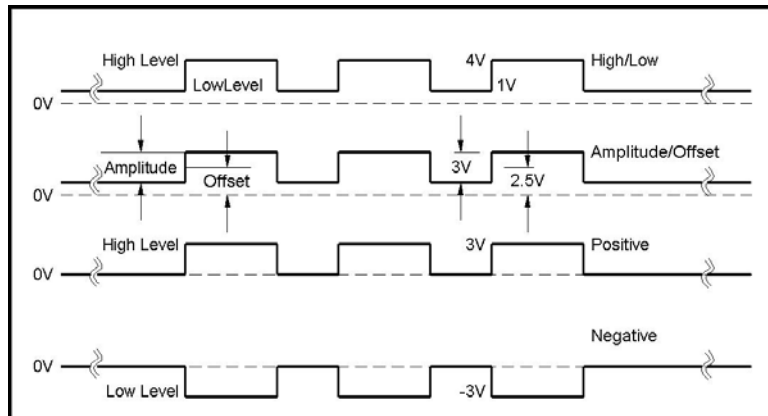

Figure 3-38, Amplitude Level Modes Options
Using the PM8572 as your pulse source, you have four options to set up the pulse levels, these are shown in Figure 3-38 and explained below:
1. **High/Low Levels.** This is the default option. Using this mode, you program the high and the low levels directly and let the instrument set the internal amplitude and offset according to your selection. The maximum amplitude that can be programmed is 16 V peak to peak. To achieve this level, program the low level to -8 V and the high level to +8 V. Note that although the specified maximum peak to peak amplitude is 16 V, the high and low level can not exceed the ± 8 V rail limits. Also note that the amplitude level is specified when the pulse is applied on a 50Ω load impedance. The only way to exceed the peak to peak rail limitation is by increasing the load impedance but then expect degradation of the pulse shape. The example in Figure 3-38 shows the high level set at 4 V and the low level set at 1 V and hence the resulting peak-to-peak level is 3 V.
2. **Amplitude/Offset.** This option allows separate modification of the amplitude and the offset. This option is very useful when you want to vary the vertical position of the pulse but hold the peak to peak amplitude level fixed. Obviously, when the amplitude is set to 16 Vp-p, offsetting the signal is not possible because of the ± 8 V rail limits. The example in Figure 3-38 shows the amplitude set at 3 V and the low level set at 2.5 V and hence the resulting waveform is exactly as was programmed in the high/low level programming example.
3. **Positive.** This option is very useful when you want to vary the positive position of the pulse but hold the low level fixed at the 0 V level. The example in Figure 3-38 shows the high level set at 3 V and the low level fixed at 0 V. Modification of the high level will not alter the low level position. Note that in this case the peak to peak amplitude is limited to 8 Vp-p because the high level setting can not exceed the +8 V rail limit.
4. **Negative.** This option is very useful when you want to vary the negative position of the pulse but hold the high level fixed at the 0 V level. The example in Figure 3-38 shows the low level set at -3 V and the high level fixed at 0 V. Modification of the low level will not alter the high level position. Note that in this case the peak to peak amplitude is limited to 8 Vp-p because the low level setting can not exceed the -8 V rail limit.